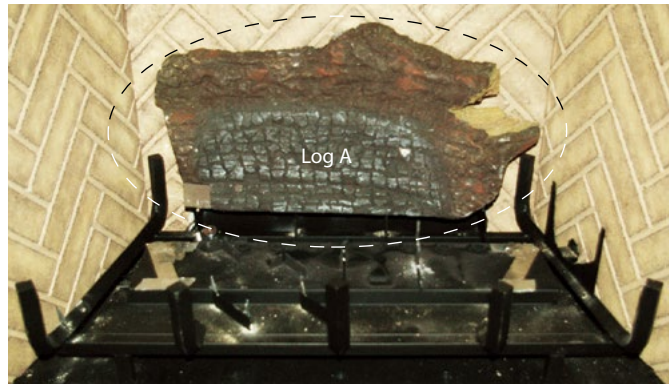

Figure 18d. Location of Log 'A'.
**Step 3.** Position Back Log 'A' from the previously unpacked package, (**Figure 18**). Place the Log upright, (as shown **Figure 18d**) and move the Log flush against the sheet metal Back Pan. Without pressing the Log down, move it as far to the left as possible, bumping the bottom Left corner against the alignment tab, (**Figure 18a & 18d**). Lastly, Press the Log **FIRMLY** downward, onto the sharp spikes, shown in **Figure 18a & 18e**.